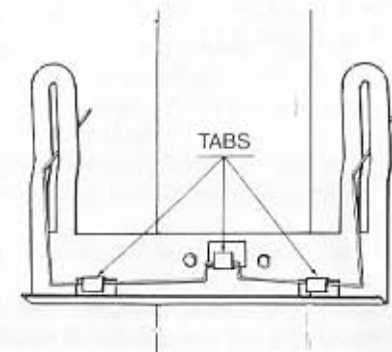

FIGURE 31
6. Refer to Figure 31 to be sure the new stylus is positioned correctly under the tabs on the holder. Be sure it moves freely in the two slots. If not, bend the stylus away from the edge it is rubbing on until it does move freely.